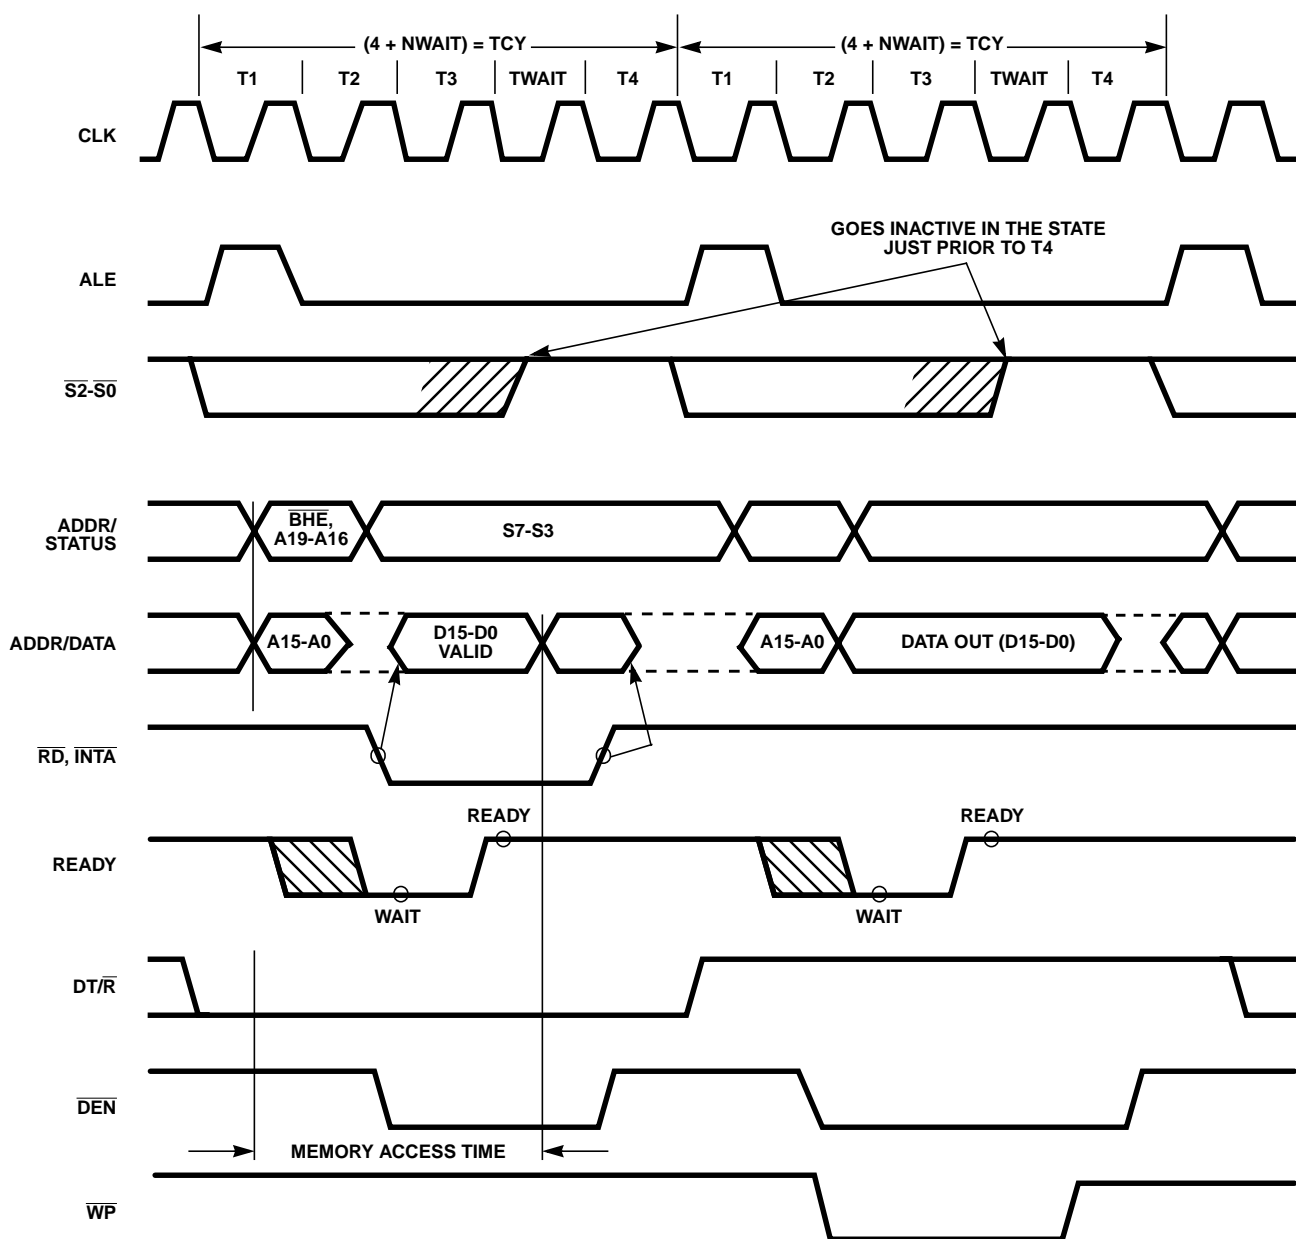
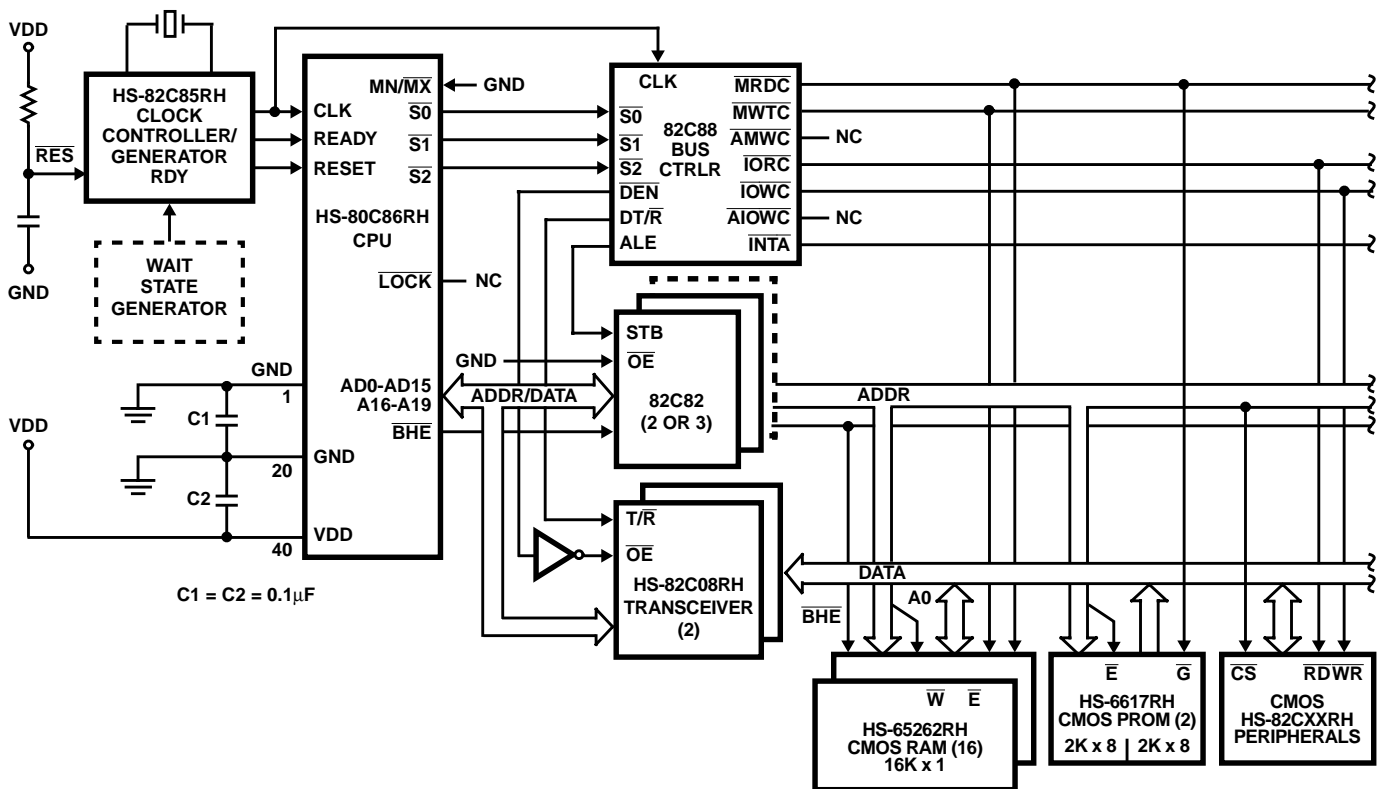

FIGURE 11. BASIC SYSTEM TIMING
FIGURE 14A. MAXIMUM MODE HS-80C86RH TYPICAL CONFIGURATION
Each processor bus cycle consists of at least four CLK cycles. These are referred to as T1, T2, T3 and T4 (see Figure 11). The address is emitted from the processor during T1 and data transfer occurs on the bus during T3 and T4. T2 is used primarily for changing the direction of the bus during read operations. In the event that a "NOT READY" indication is given by the addressed device, "Wait" states (TW) are inserted between T3 and T4. Each inserted wait state is the same duration as a CLK cycle. Idle periods occur between HS-80C86RH driven bus cycles whenever the processor performs internal processing.
Typical system configurations for the processor operating in minimum mode and in maximum mode are shown in Figures 14A and 14B, respectively. In minimum mode, the MN/ \overline{MX} pin is strapped to VDD and the processor emits bus control signals (e.g. \overline{RD} , \overline{WR} , etc.) directly. In maximum mode, the MN/ \overline{MX} pin is strapped to GND and the processor emits coded status information which the 82C88 bus controller used to generate Multibus™ compatible bus control signals. Figure 11 shows the signal timing relationships.